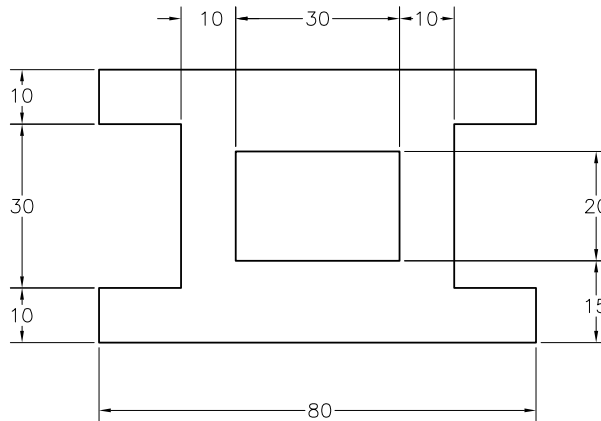
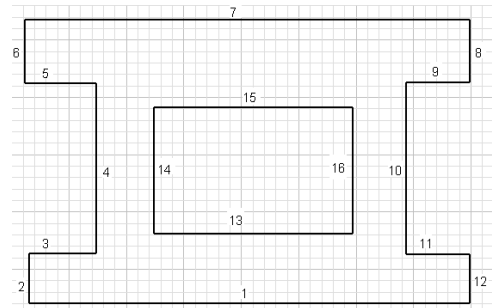

Figure 3-44 Dimensioned sketch for Tutorial 1
Figure 3-45 Initial sketch drawn using the sketching tools
In this tutorial, you will draw the sketch shown in Figure 3-44. This sketch is the same as the one drawn in Tutorial 2 of Chapter 2. In this tutorial, you will not use the **Inventor Precise Input** toolbar while drawing the initial sketch. After drawing the sketch, you will add the required constraints and then dimension it. Also, you will place a point at the origin and fix it at that location. Then, you will dimension the sketch and fully constrain it by using this point.
- Draw the initial sketch by using the **Line** and **Two point rectangle** tools, refer to Figure 3-45.
1. Using the **Line** tool and the **Two point rectangle** tool, draw the required sketch similar to the one shown in Figure 3-44. You do not need to draw the sketch to the exact length. Use the temporary tracking option for drawing the sketch. For your reference, all lines in the sketch are numbered, see Figure 3-45.
It is evident from Figure 3-45 that some of the lines need to be of the same length. For example, lines 1 and 7, lines 2 and 6, lines 8 and 12, and so on need to be of the same length. You can do so by using two options. In the first option, you can assign dimensions to all these lines. However, this will increase the number of dimensions in the sketch. In the second option, you can apply constraints that will force the lines to maintain an equal length. You can apply the **Equal** constraint to all lines that have the same length. This constraint will relate the length of one of the lines with respect to the other. Now, if you dimension any one of the related lines, all other lines related to it will be forced to acquire the same dimension value. The **Equal** constraint is applied in pairs.